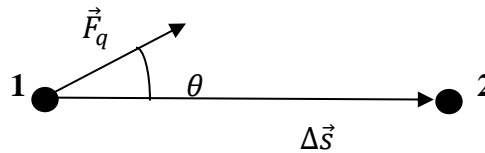

*Fig. 1. Electric field line and Electric field*
**Electric field lines:** A convenient way of visualizing the electric field produced by a given charge distribution is by drawing lines called electric field lines. An electric field line starts at a positive charge and ends at a negative charge. The strength of the field is proportional to the density of the field lines. The tangent direction of the electric field line at any point gives the direction of the corresponding electric field, as shown in Fig. 1.